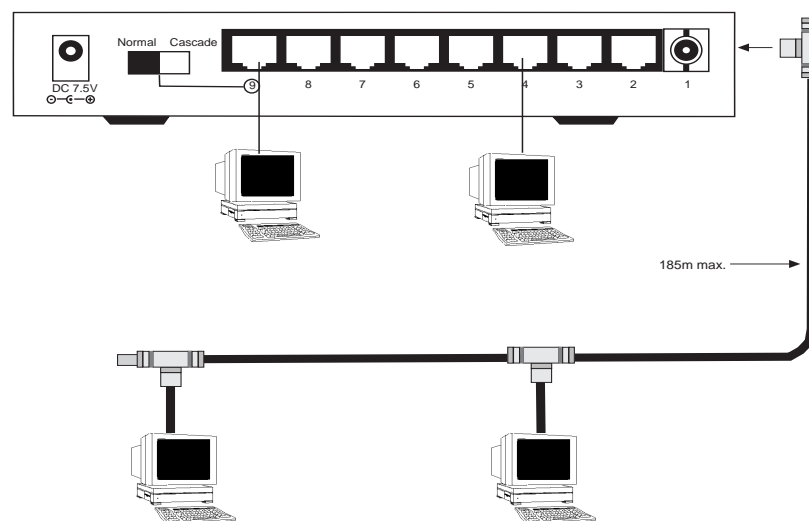

Figure 3
3. Plug the other end into the workstation's network interface card. The following figure 3 illustrates a simple network topology using a 10BASE-T hub-to-workstation connections.
2. Plug one end of the coaxial cable into the Hub's BNC port. Please refer to figure 3 if you are having trouble locating this port.
3. Connect the other end of the coaxial cable to the workstation's BNC connector located on the network interface card. Please refer to figure 3 for an illustration of such a connection.